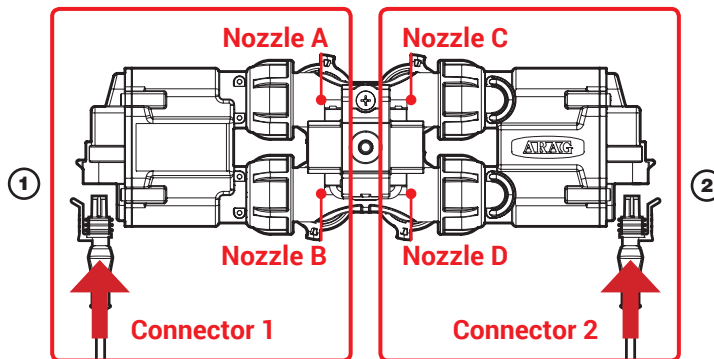

Fig. 213
- 1 Connect in sequence **ONLY SELETRON NOZZLE HOLDERS A AND B**, from left to right until the end of the boom (**connector 1** in Fig. 213).